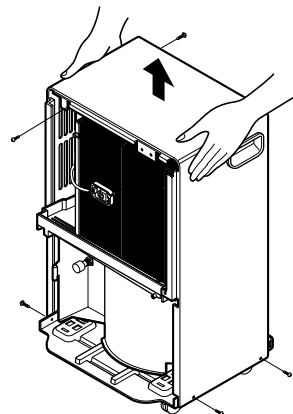

Figure 12
2. Remove 1 screws that fasten Control box. (See Figure 12)
4. Lift the Cabinet from the base.(See Figure 12)